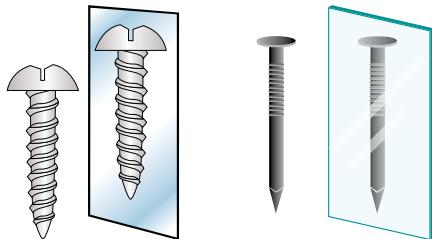

FIGURE 10.2.13 Explain chirality using a nail and a screw.
- 1 Consider the nail and screw in Figure 10.2.13. Explain why one of the two objects is chiral and the other is achiral.